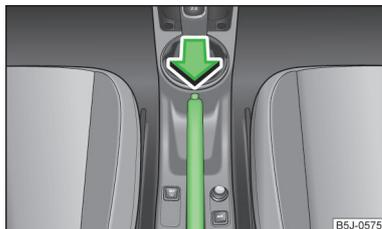

Fig. 108
- Pull the handbrake lever up slightly **and at the same time** push in the locking button » Fig. 108.